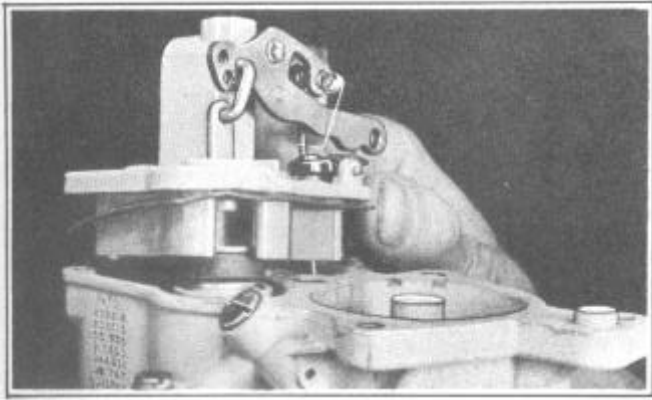

FIGURE 18
3. Disconnect throttle connector rod; then remove bowl cover with all parts attached. Remove throttle shaft arm assembly, Figure 18.